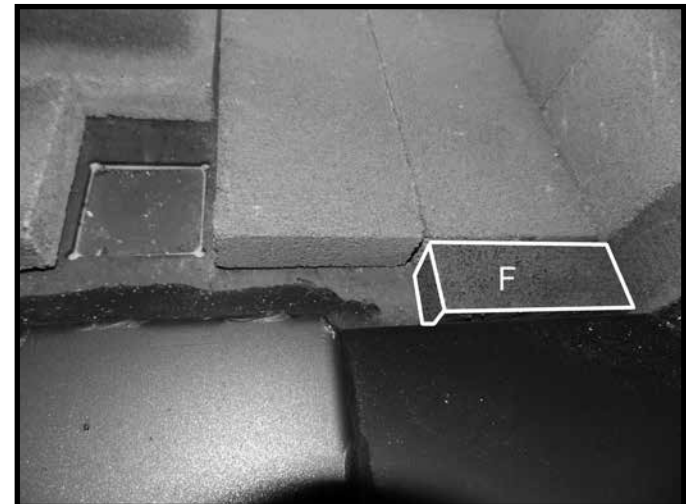
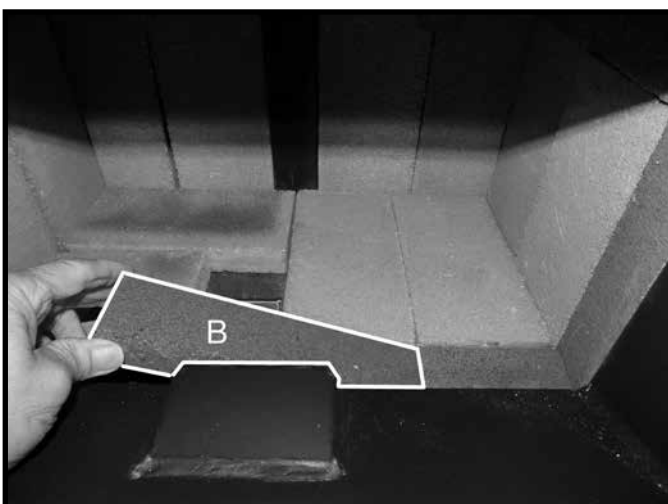
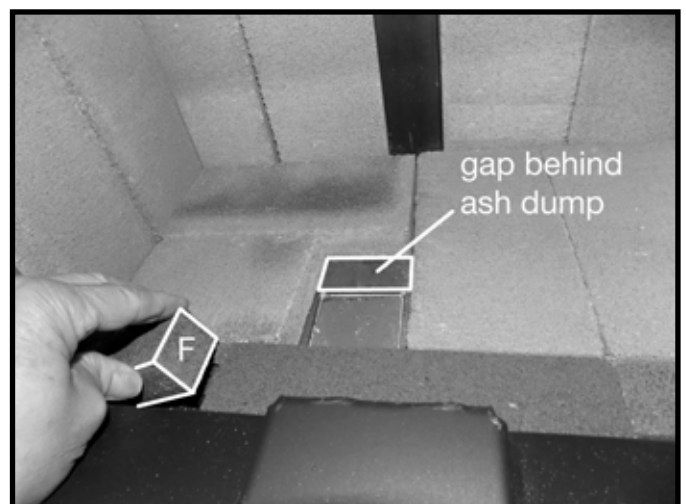

Figure 16. Short, narrow brick installed in front row.
Figure 17. Long, narrow center brick in front row.
Figure 18. Final short, narrow brick in front row.
9. Place a short narrow "F" brick against the front right side of the floor (Figure 16) followed by a longer "B" brick in the center of the front row (Figure 17). Finish with the last "F" brick placed against the left side front row (Figure 18). Note: There will be a gap remaining behind the ash dump.